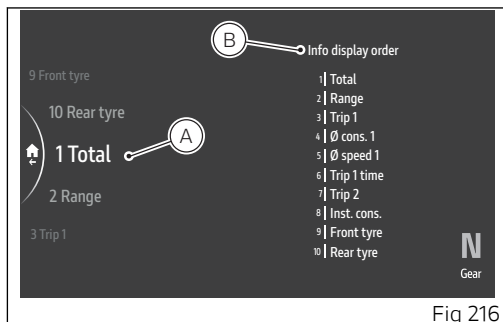

Fig 216
The list of the 10 selectable items, with the number of their current position (A, Fig 216) is displayed in the middle. The current order of the Info display (B, Fig 216) is displayed on the right-hand side.
- Use the joystick ▲ ▼ to select “Total” and press ENTER (Fig 216).
To restore the original order, select the "Default" item and press ENTER: "Wait..." is displayed for a few seconds followed by "Restored". Then, "Default" item disappears from the menu list, while the positions of the items and the current order of the Info display are restored to their original conditions (Fig 216).